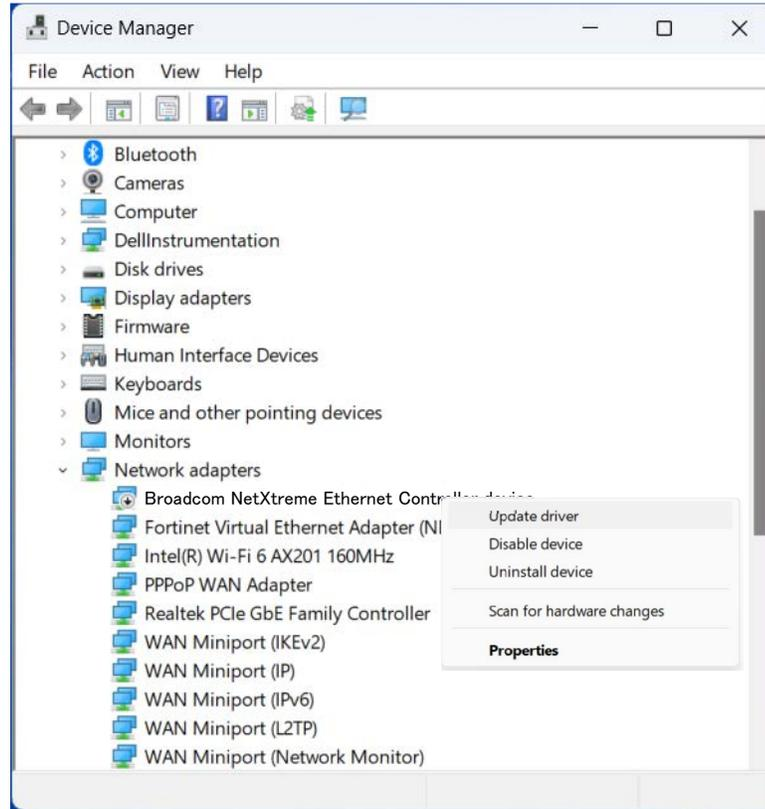

Figure 19. Ethernet Controller in Device Manager
4. In the shortcut menu, select **Update driver**. See Figure 19.